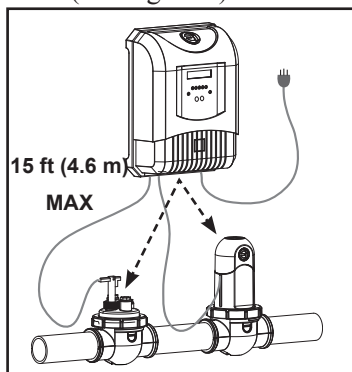

Figure 4. Installation Requirements
2. Screw the power pack bracket into position on a wall surface where it will mount securely, while ensuring it is no more than 15 ft. (4.6 m) from the cell (see Figure 4 and 5).